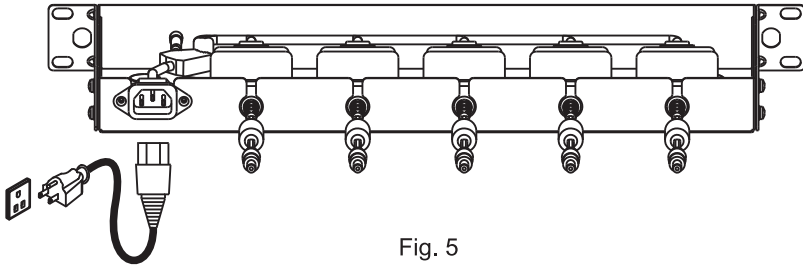

Fig. 5
4. After all power supplies are fixed, connect the DC output cables to the receivers, and finally connected the AC power socket ③ to the external AC power source with an AC power cable. If the power indicator ① on the storage case front panel is lit, it indicates that the power supply is normal, as shown in Fig. 5.